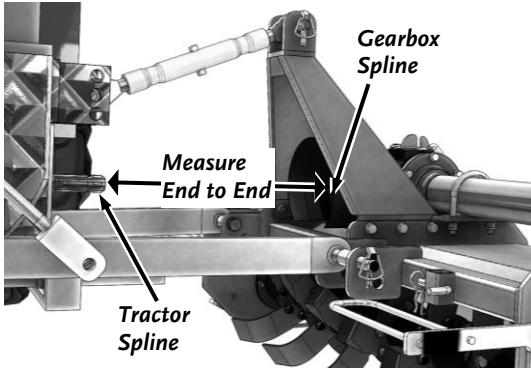

Figure 12: Level Position
2. Raise the Tiller up until the Tractor PTO Spline and Tiller Gearbox Shaft are level with each other (**Figure 12**). Measure from the end of the Tractor Spline Shaft to the end of the Tiller Gearbox Shaft and record this dimension in the "SHAFTS LEVEL" row of the table above.